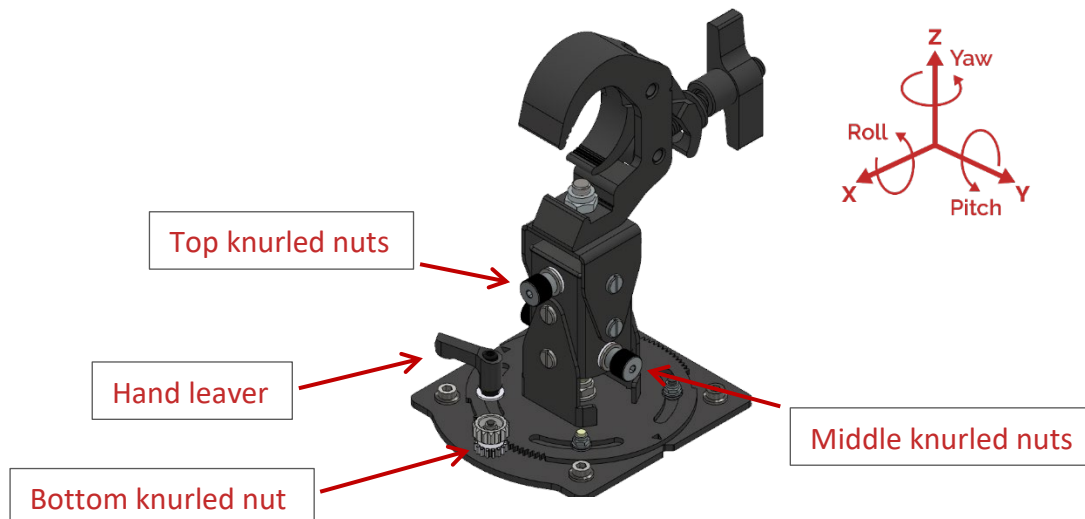

Figure 22 Adjusting the position on the three axes
Step 3: To fine adjust the angle on the Roll, Yaw, and Pitch axes, use one of the knurled nuts as shown below in Figure 22: